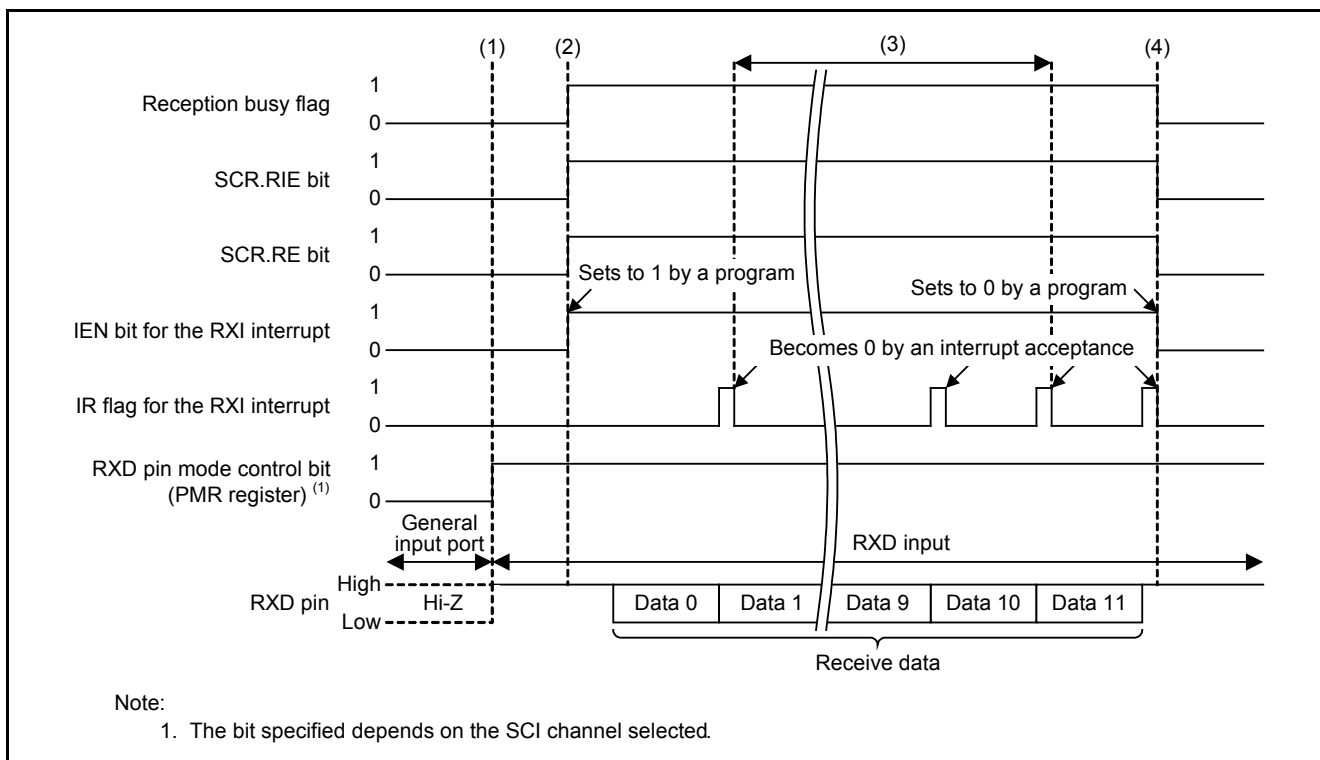

Figure 5.3 Timing of Serial Reception
Figure 5.3 shows the Timing of Serial Reception and (1) to (4) in the figure correspond to numbers in the operation descriptions below.
- (1) Initialization